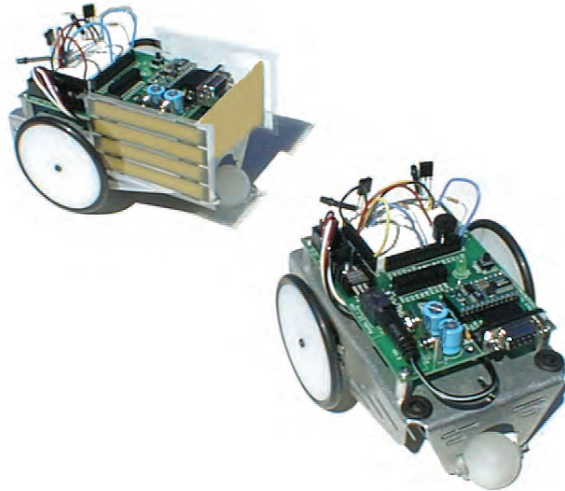

Figure 8-6
Figure 8-6 shows a lead Boe-Bot followed by a shadow Boe-Bot. The lead Boe-Bot is running a modified version of `FastIrRoaming.bs2`, and the shadow Boe-Bot is running `FollowingBoeBot.bs2`. Proportional control makes the shadow Boe-Bot a very faithful follower. One lead Boe-Bot can string along a chain of 6 or 7 shadow Boe-Bots. Just add the lead Boe-Bot's side panels and tailgate to the rest of the shadow Boe-Bots in the chain.
- ✓ If you are part of a class, mount paper panels on the tail and both sides of the lead Boe-Bot as shown in Figure 8-6.